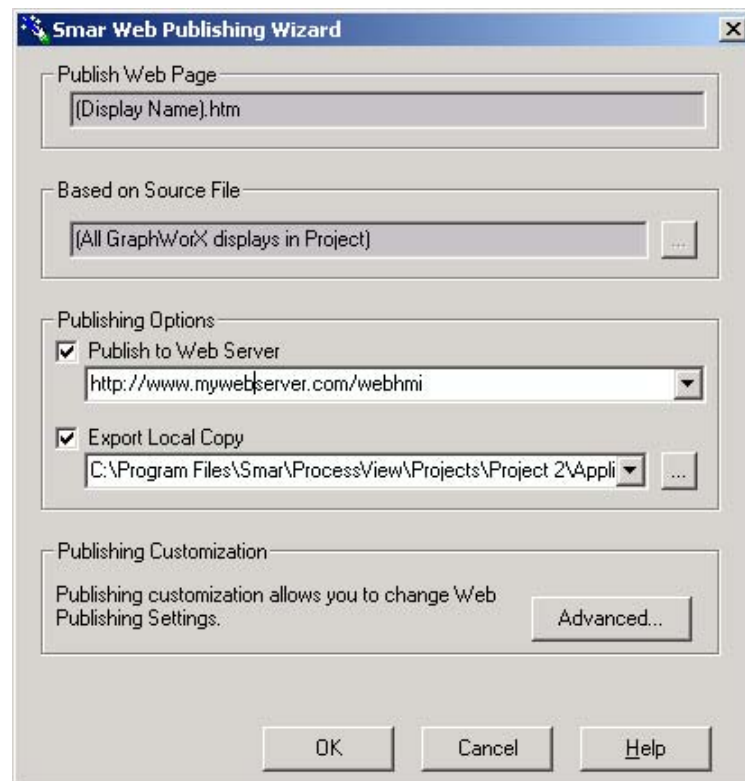

Figure 4.30. Publishing All GraphWorX Displays in a Project
2. This launches the Web Publishing Wizard, as shown in **Figure 4.30**. In this case, both the **Publish Web Page** field and the **Based on Source File** field in the Web Publishing Wizard dialog are read-only and contain the text “(Display Name).htm” and “(All GraphWorX Displays in Project),” respectively. The browse (...) button is also disabled.